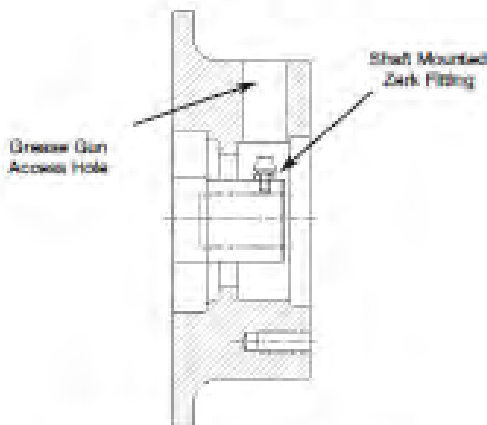

Figure 3—Drive End Bearing Bracket
2. Turn the rotor assembly so that the Zerk fitting is in line with the access hole in the top of the drive and bearing bracket as illustrated in Figure 3.
3. Using a hand held grease gun with a soft coupling, apply a small amount of grease into the fitting. **DO NOT OVER GREASE.** Limit the amount of grease to one (1) trigger pull of the grease gun.